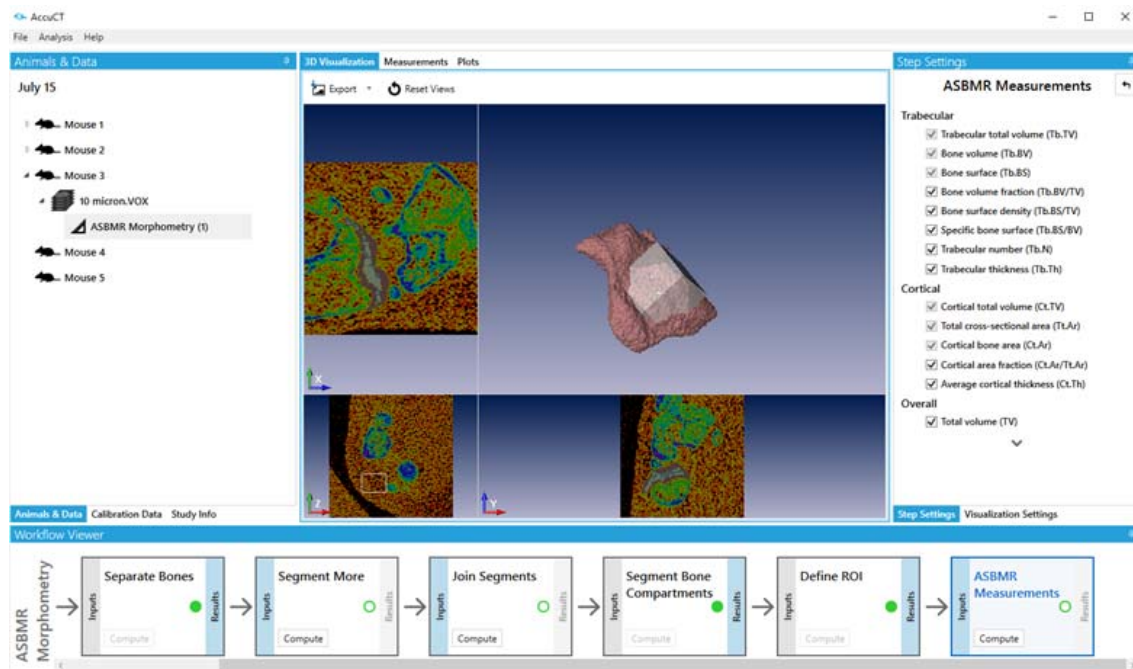

Figure 49. Define ROI Step Results
- 5 Click the **Compute** button in the Define ROI step box on the Workflow Viewer Tab to save the current ROI parameters for use in the remaining steps of the workflow. The results of the Define ROI step display on the AccuCT Main Window. See Figure 49.